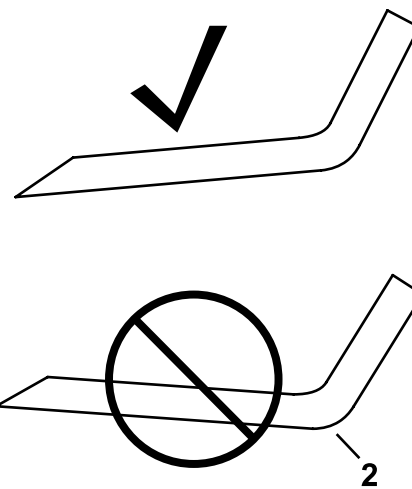

**Figure 76**
4. Inspect the cutting edges of all the blades. Sharpen the cutting edges if they are dull or nicked, sharpen only the top of the cutting edge, and maintain the original cutting angle to ensure sharpness (Figure 76).